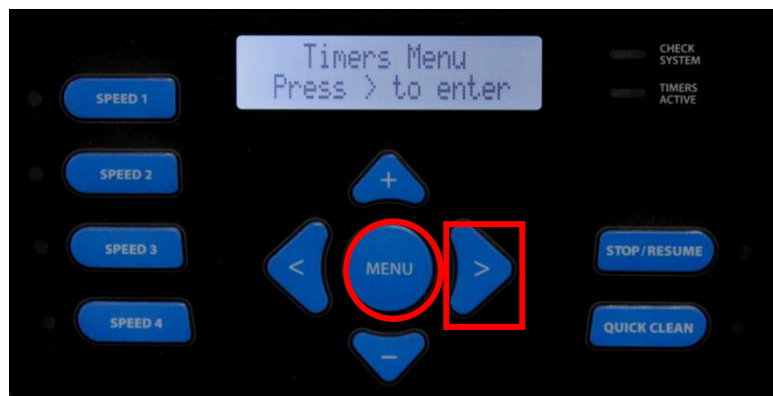

Figure 42
1. Press the  button until you see the Timers Menu (fig 42). Press the  button to continue.